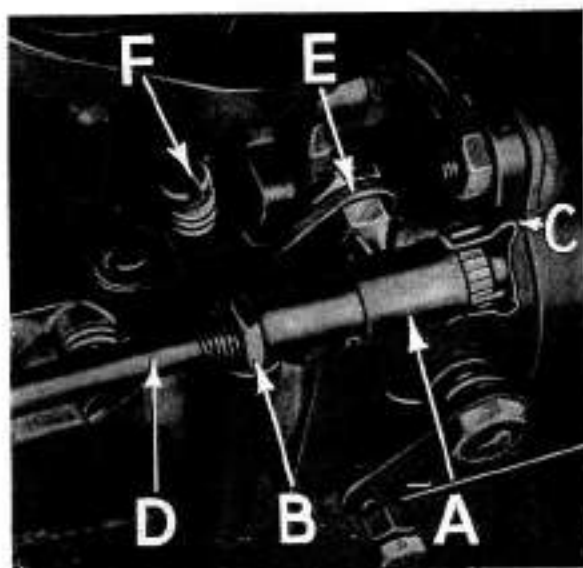

FIG. 20
2. Set the slow running speed of the engine at 600 r.p.m. by adjusting the nut G and the stop F, Fig. 20, on the carburetter.